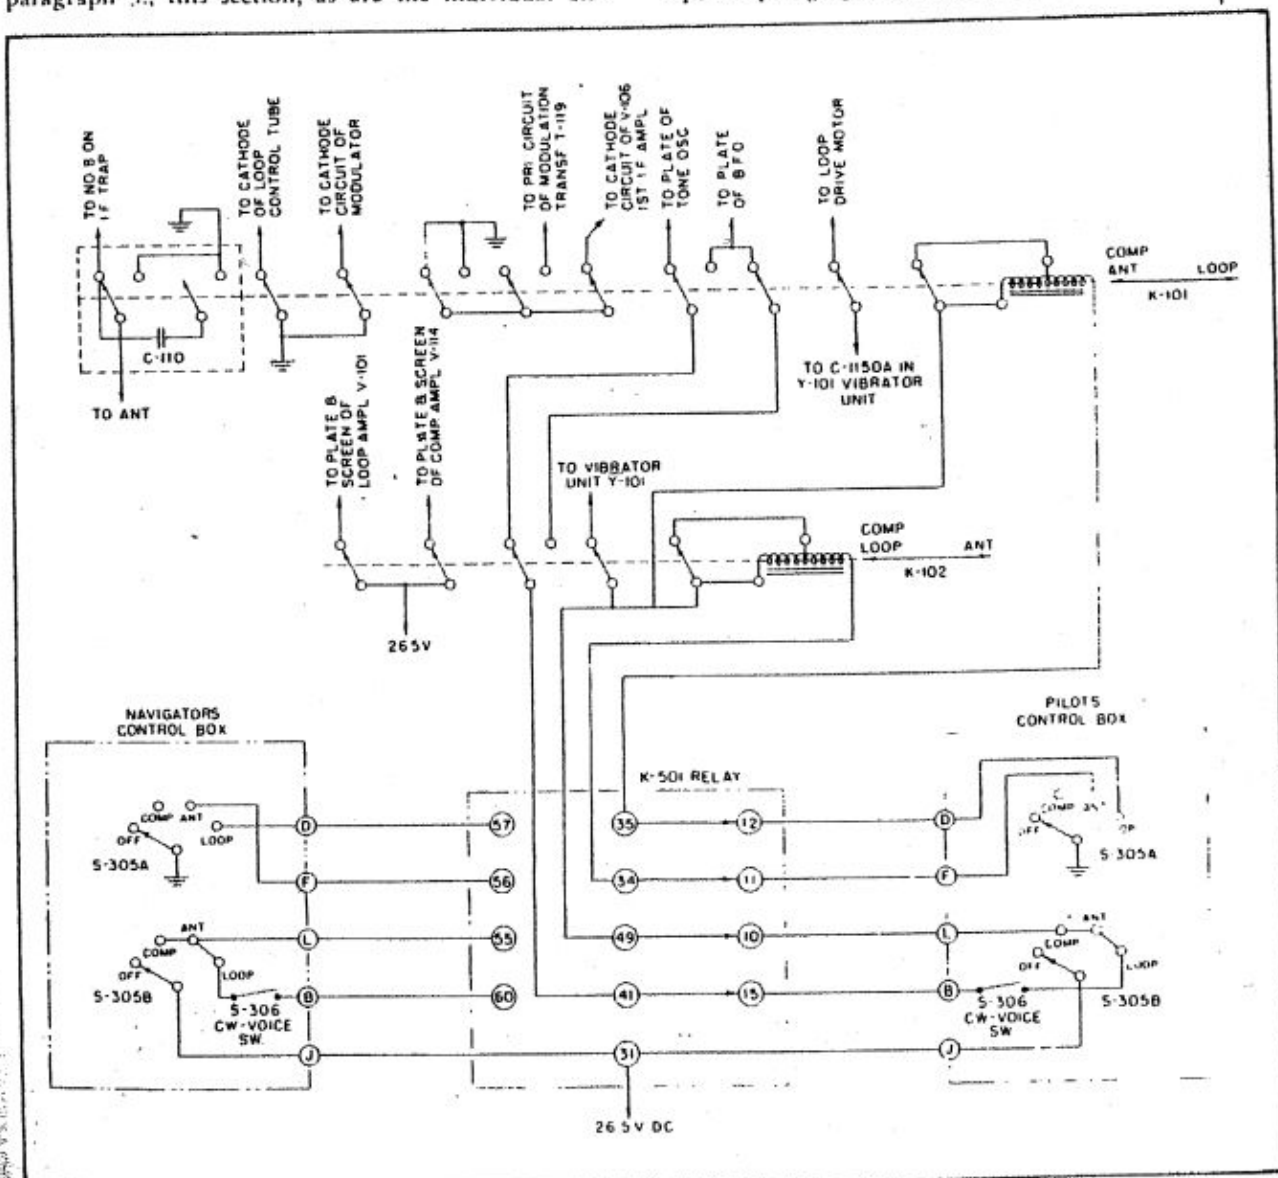
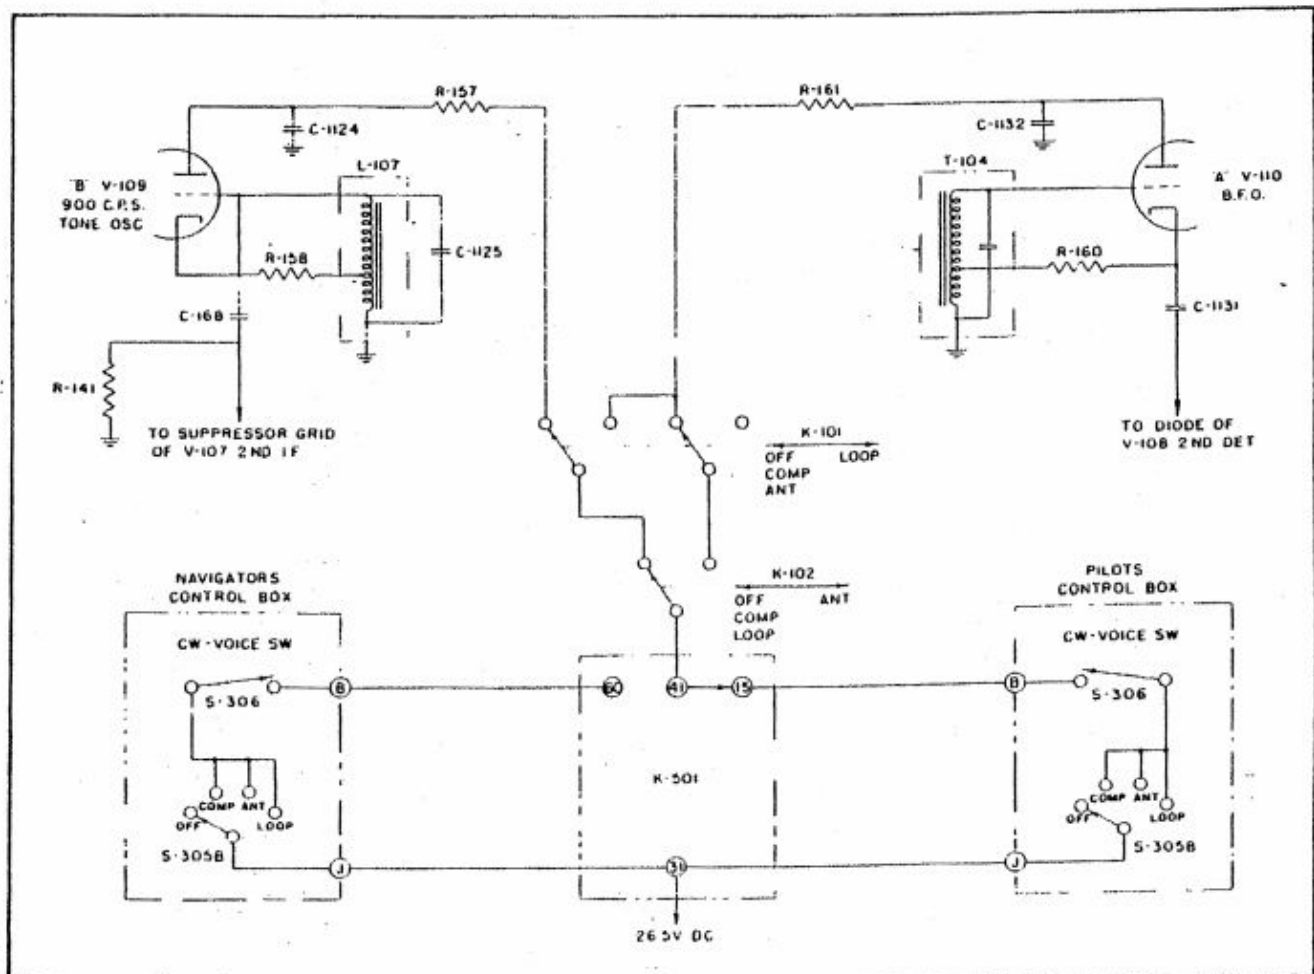
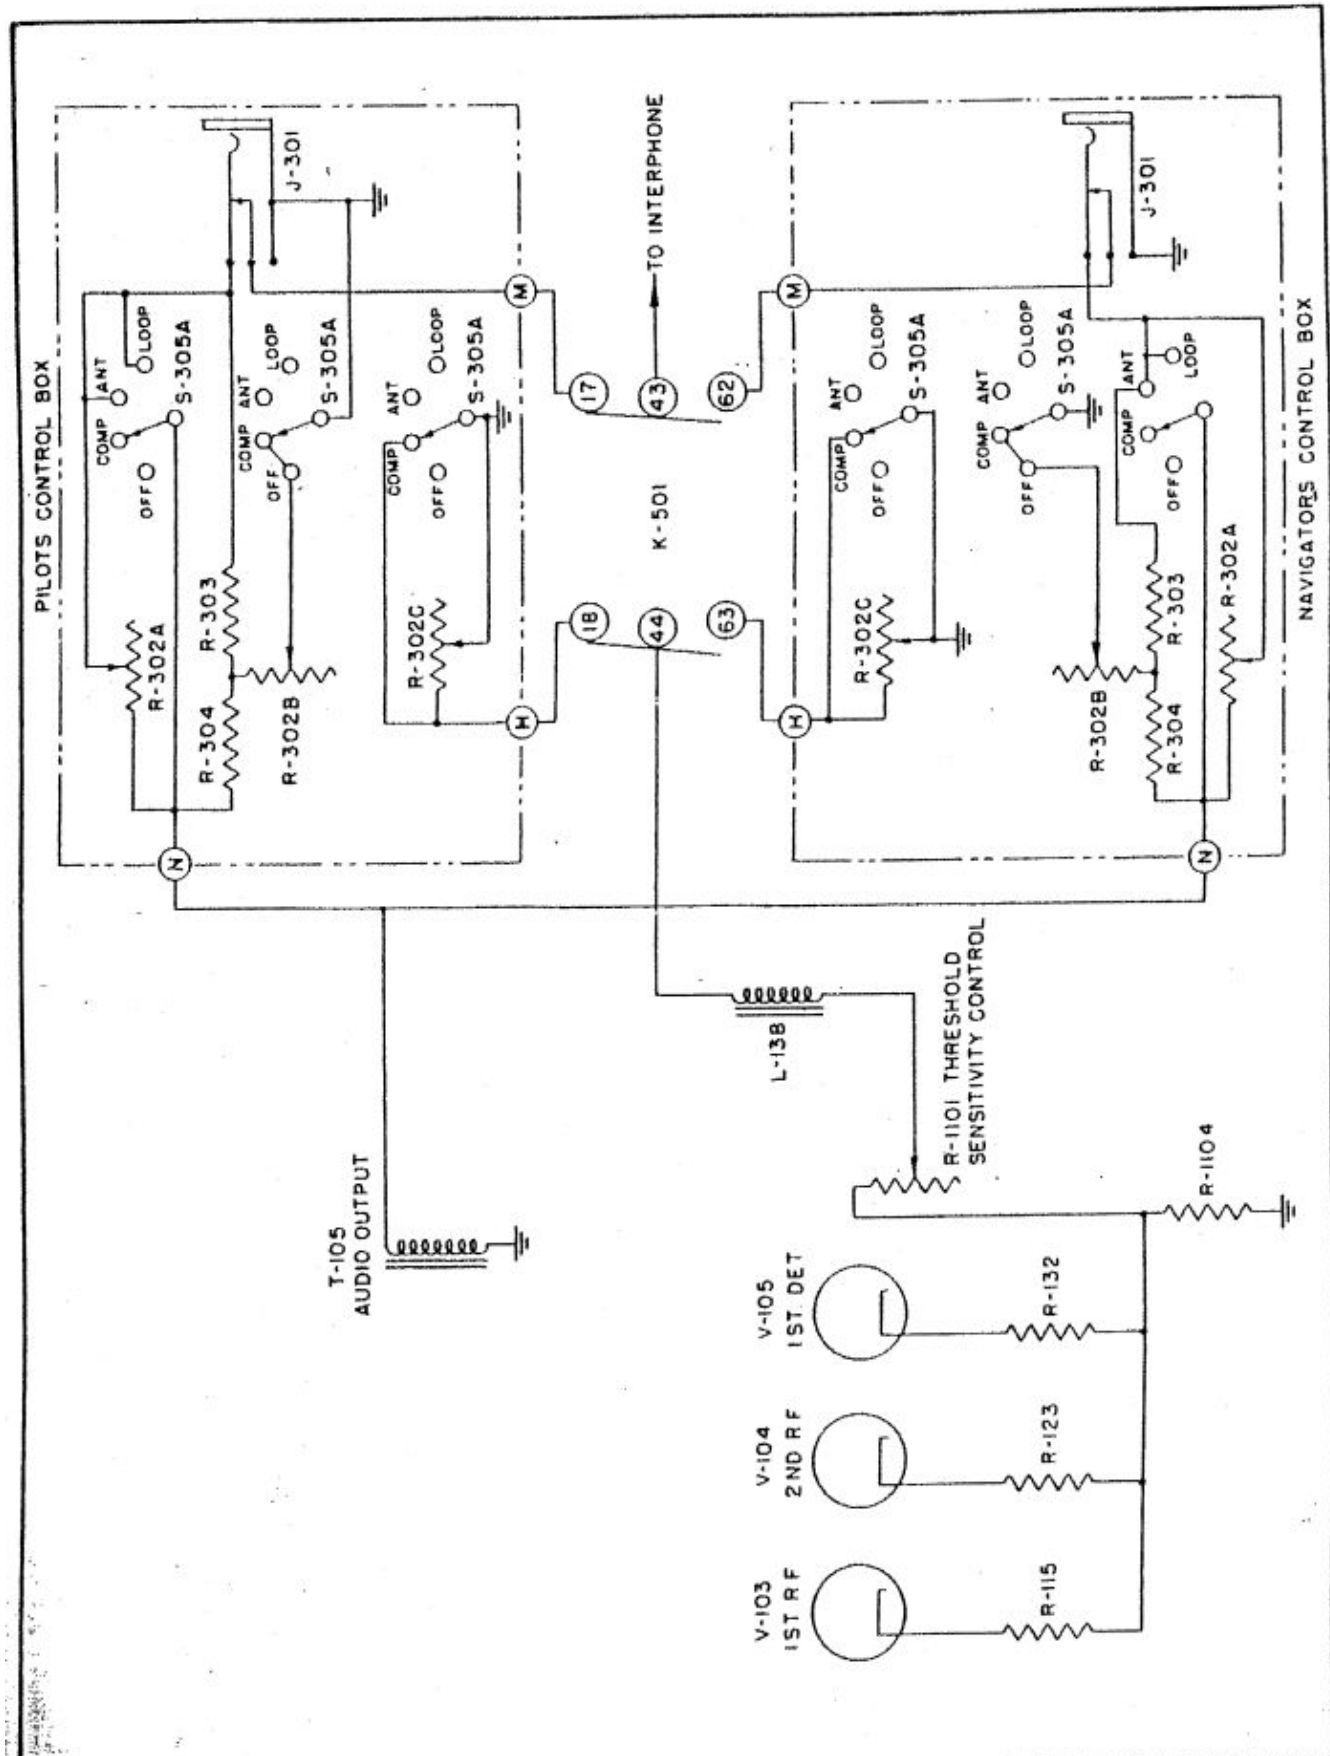

Figure 4-7. Functional Diagram—Antenna and Loop Relay Circuits of Radio Compass Unit R-101/ARN-6
Figure 4-11: Functional Diagram—CW-Voice Circuit of Radio Compass Unit R-101/ARN-6
Figure 4-13. Functional Diagram—Audio and Sensitivity Control of Radio Compass Unit R-101/ARN-6
(5) With the mechanism in band 2 position, if S-303 is now turned back to band 1, the other field winding of B-101 is energized, and the motor rotates in the opposite direction until the proper position is reached.
(6) In this manner, the motor operates for every change of S-303, so that the band-switch mechanism will come to rest in the desired position. It should be noted that the successive positions of the mechanism are in the sequence 1-3-2-4; this sequence is used for better electrical and mechanical design of the RF transformer assemblies.
(7) Every time the motor operates, the portion of the operating voltage which appears across the armature is applied through R-100 to the cathode of V-107, the second IF amplifier; this bias is sufficient to cut the tube off, and is used to silence the receiver during the switching operation.
c. "CW-VOICE" SWITCH AND CIRCUITS. (See figure 4-11 or 4-12.)
(1) The "CW-VOICE" switch S-306 in the control box, when put in CW position, makes provisions for reception of CW signals by one of two different methods.
(2) If compass operation is selected, a 900-cycle audio or tone oscillator (V-109B) is controlled by S-306. This gives suppressor grid modulation of the incoming signal applied in the second intermediate frequency tube, V-107.
(3) If either antenna or loop reception is selected, K-101 or K-102 is operated, so that S-306 controls the beat frequency oscillator V-110A. (See also figure 4-7 or 4-8.)
(4) The tone oscillator is used in compass operation because the amplitude of the tuning meter indication is dependent solely upon the accuracy of tuning. No "zero-beat" exists, to mislead the operator. For other than automatic compass operation, the beat frequency oscillator is used to make audible the CW signals. In this case, the pitch can be adjusted to suit the operator, by very small motions of the tuning dial. Moreover, it results in better signal-to-noise ratio and leaves no residual modulation when not tuned to a carrier.
d. AUDIO AND SENSITIVITY CONTROLS. (See figures 4-13 and 4-14.)
(1) The method of audio volume control is different for compass operation and ordinary reception;